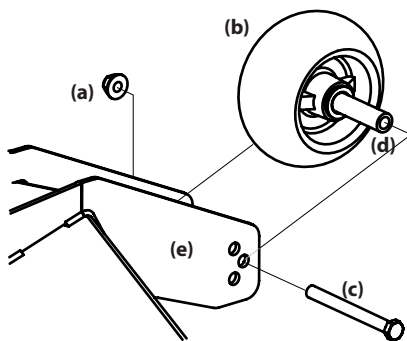

Figure 4-12
- Remove the lock nut (a) securing one of the front gauge wheel (b) to the deck. Remove the front gauge wheel (b), hex screw (c) and spacer (d). See Figure 4-12.